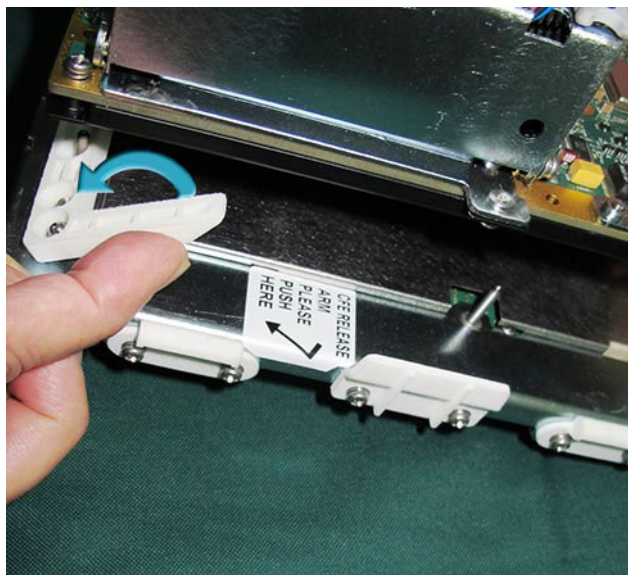

Figure 8-137 CFE Release Lever and Release of CFE Board
- 6.) Gently pull the CFE release lever upwards to release the CFE Board and then lift the CFE Board up and away from the Cage assembly - see Figure 8-137 below.